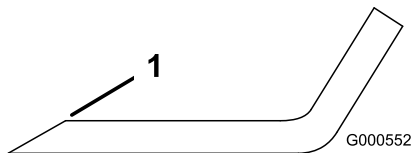

Figure 69
1. Use a file to sharpen the cutting edge at both ends of the blade (Figure 69).
Note: If the blade is not balanced, file some metal off the end of the sail area only (Figure 69).